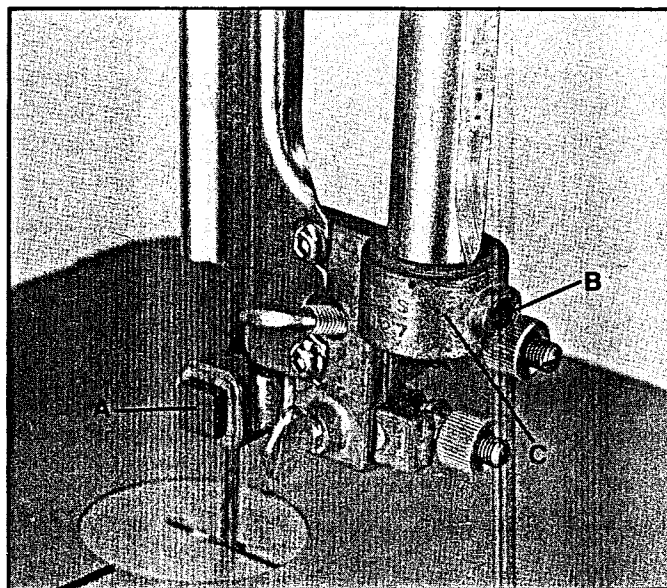

Fig. 27
The upper blade guide assembly should also be adjusted so that the blade guides (A) Fig. 27, are flat with the blade. If an adjustment is necessary, loosen screw (B) and rotate the complete guide assembly (C) until the blade guides are flat with the blade.